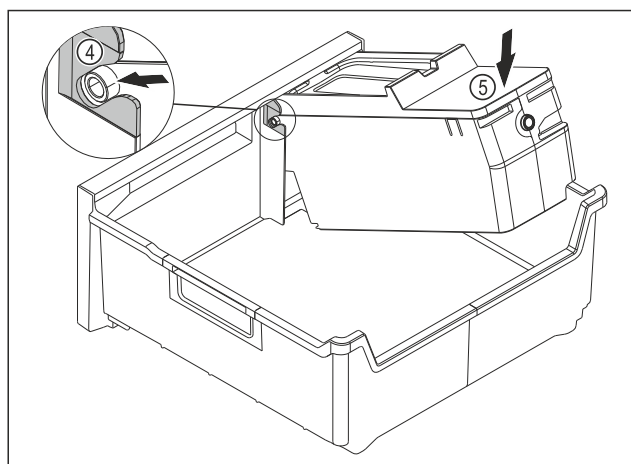

Fig. 135
- Installing the EasyTwist-Ice body: Push the axes for the EasyTwist-Ice body into the guides Fig. 135 (4).
- Press the EasyTwist-Ice body Fig. 135 (5) down at the back.